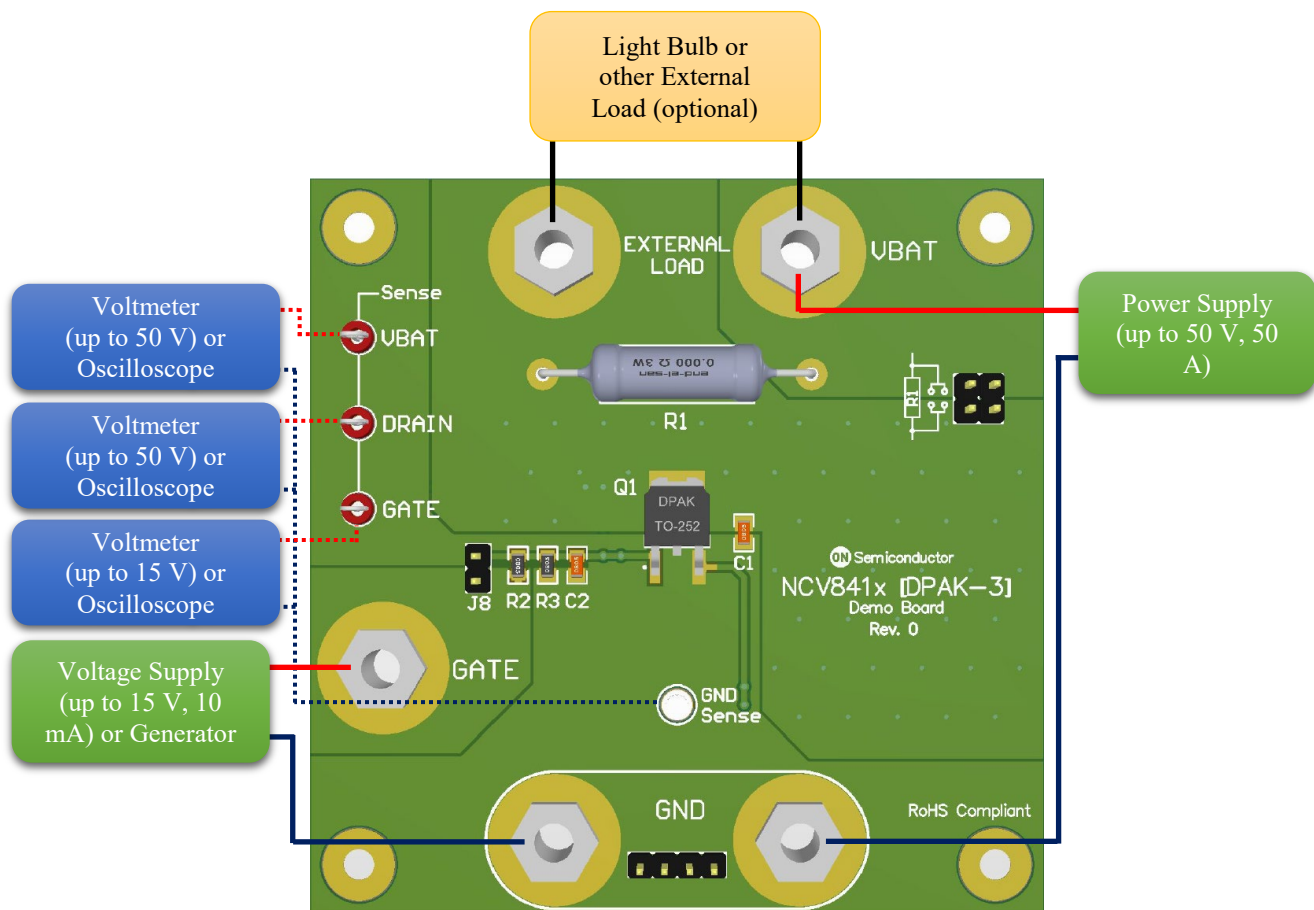

Figure 1. – Test setup
1. Connect the test setup as shown in Figure 1.